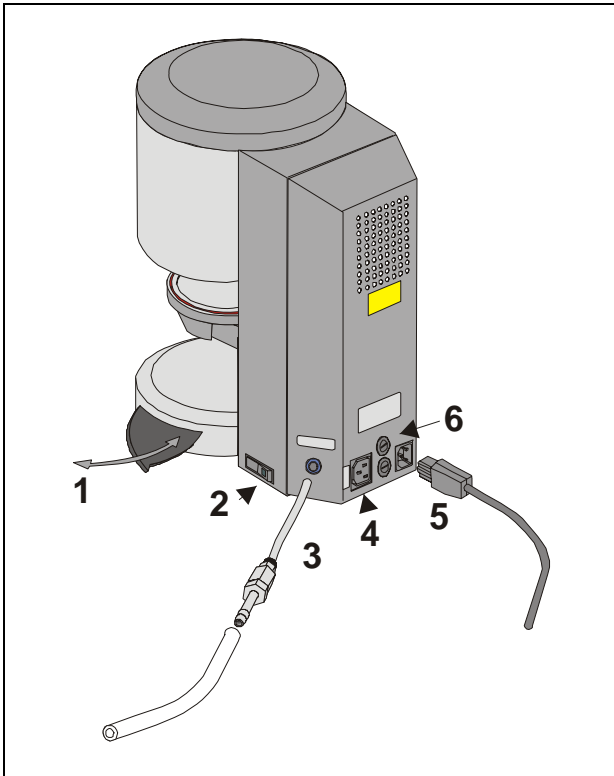

Abb. 1
- Connect the vacuum pump (**Abb. 1**)
- Use the supplied mains lead to connect the unit to the mains supply (**Abb. 1**). The connecting cable should be a hot equipment supply lead of type HO5RR-F 3G1,0 mm². Avoid connecting to a multiple socket outlet with extension lead, because there is a risk of fire when overloaded.
If the unit is not used the lift should be retracted into the firing chamber and the unit switched off by the main switch (see Fig. 1, item 2). Closing the firing chamber protects the insulation and prevents the absorption of moisture. To shut down the unit press the button with the switch-off symbol, see section 13, the lift is automatically retracted, the display indicates, switch off the unit by the main switch.